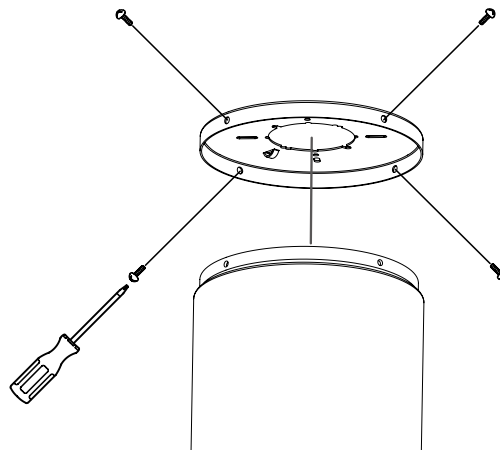

FIGURE 13
3. Remove the motor assembly from the hook on the mounting bracket. Position the motor up to the hanger plate and attach using two screws through the two key slots in the top of the motor housing (Fig. 13).